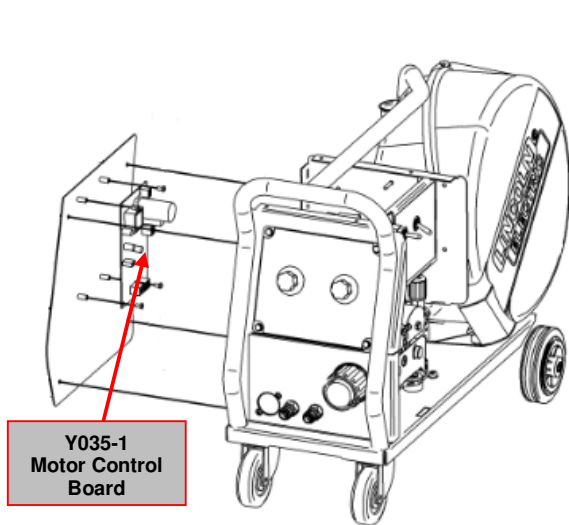

Figure 1 - Motor control board location
3. Located the Motor Control Board. See **Figure 1**. Do not remove the plugs from the Motor Control Board.